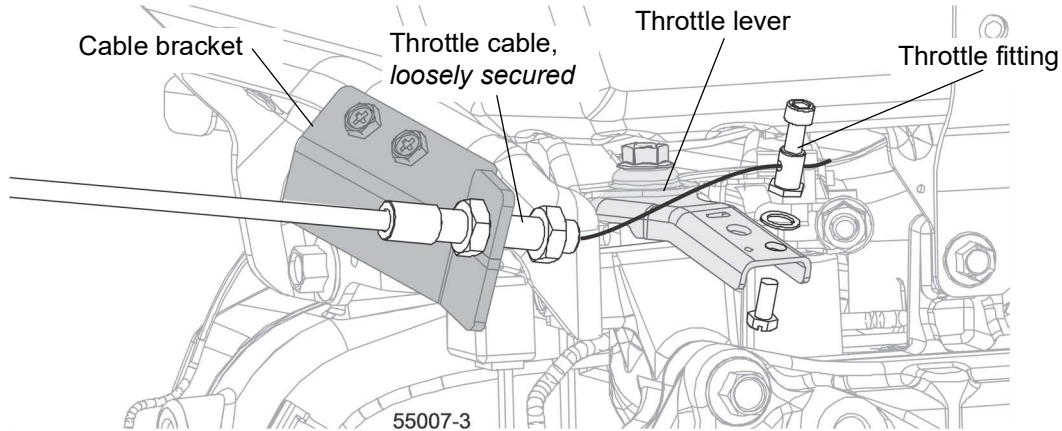

FIG. 3-24
1. Replace the existing cable bracket on the engine with the supplied cable bracket. See Fig. 3-24.
2. Loosely attach the throttle cable to the cable bracket. See Fig. 3-24.
3. Insert the throttle fitting in the throttle lever bracket. See Fig. 3-24.
4. Fasten step washer, lock washer, and bolt. See Fig. 3-24.